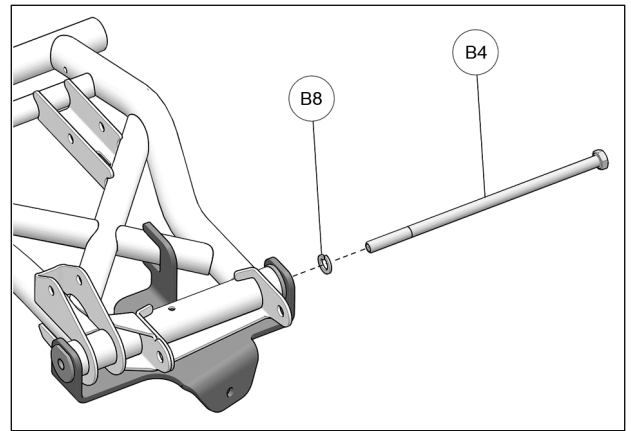

Fig. 8
9. Slide Lockwasher (**B8**) on M12x280mm bolt (**B4**); insert bolt through anchor bracket, T-Bushing (**B5**), and suspension arm until threaded T-Bushing (**B6**) is reached. Thread bolt in bushing and torque to 85 N•m [63 lb•ft]. See Fig. 8